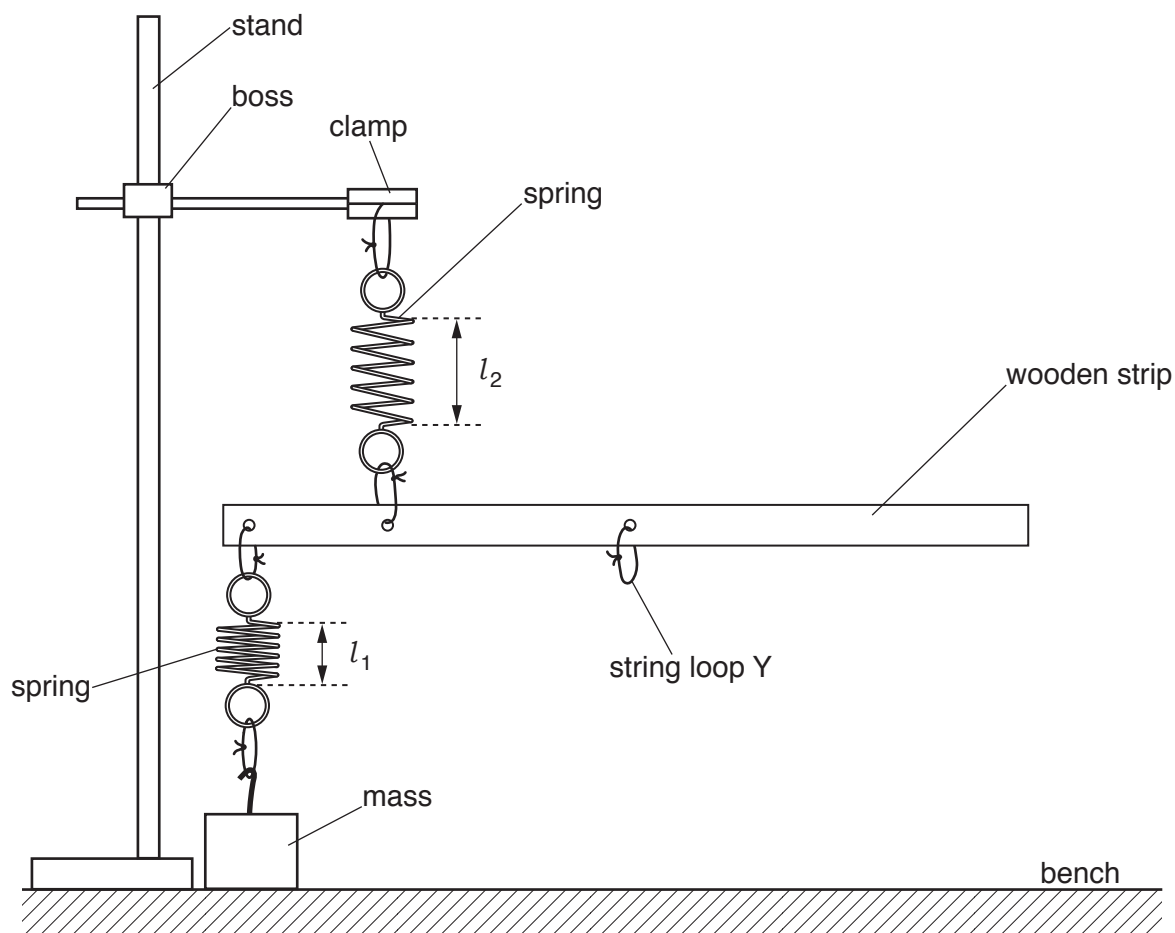

Fig. 1.1 (not to scale)
(a) (i) Assemble the apparatus as shown in Fig. 1.1, with the mass resting on the bench.
- (iii)** Measure and record the lengths l_1 and l_2 of the coiled sections of the two springs, as shown in Fig. 1.1.